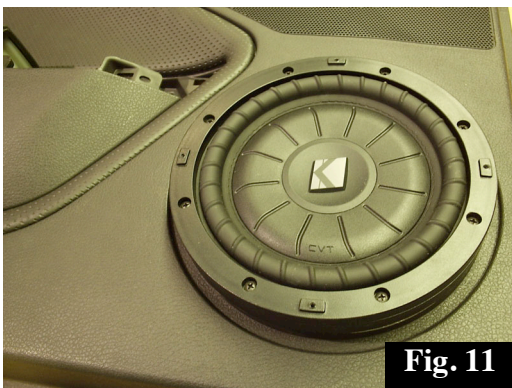

Fig. 11
15. Secure the new woofer to the spacer ring on the door panel with 8 of the supplied #8 X 5/8" screws. Fig. 11